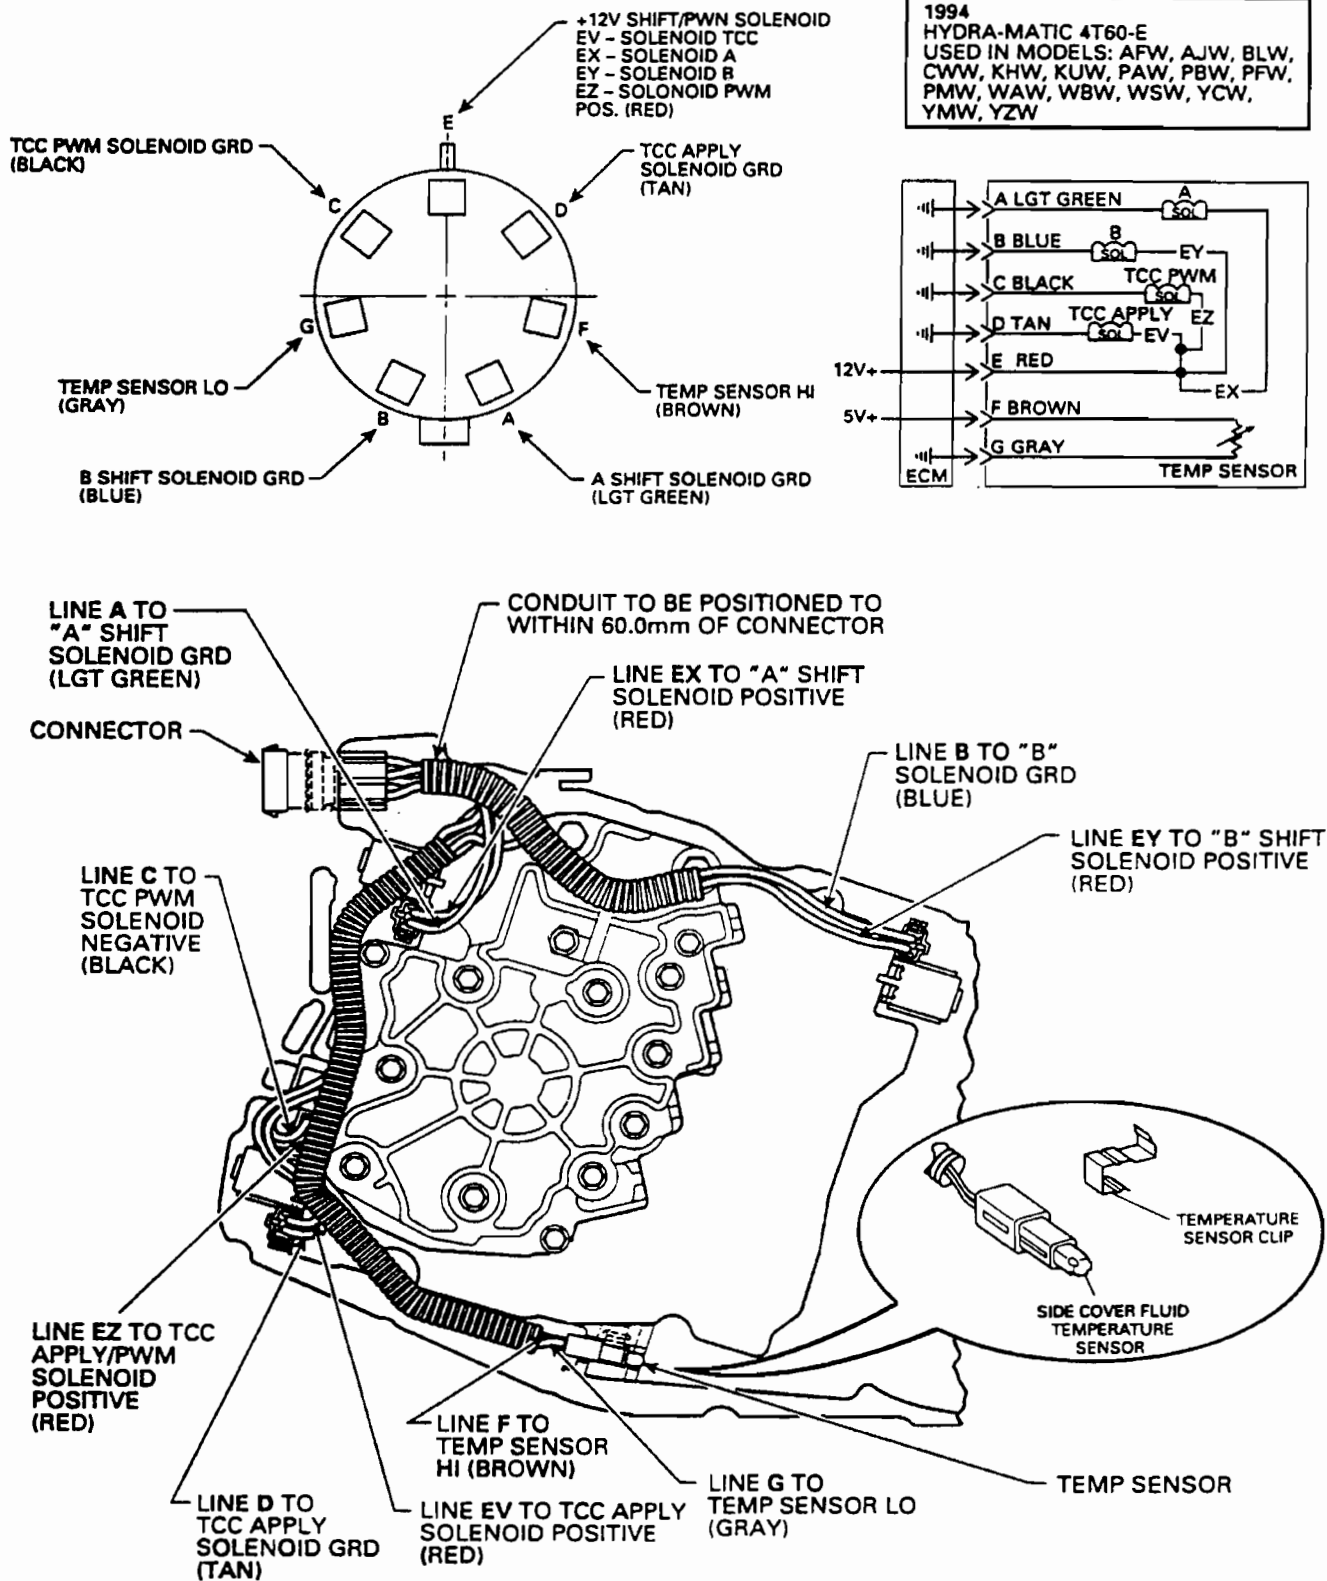
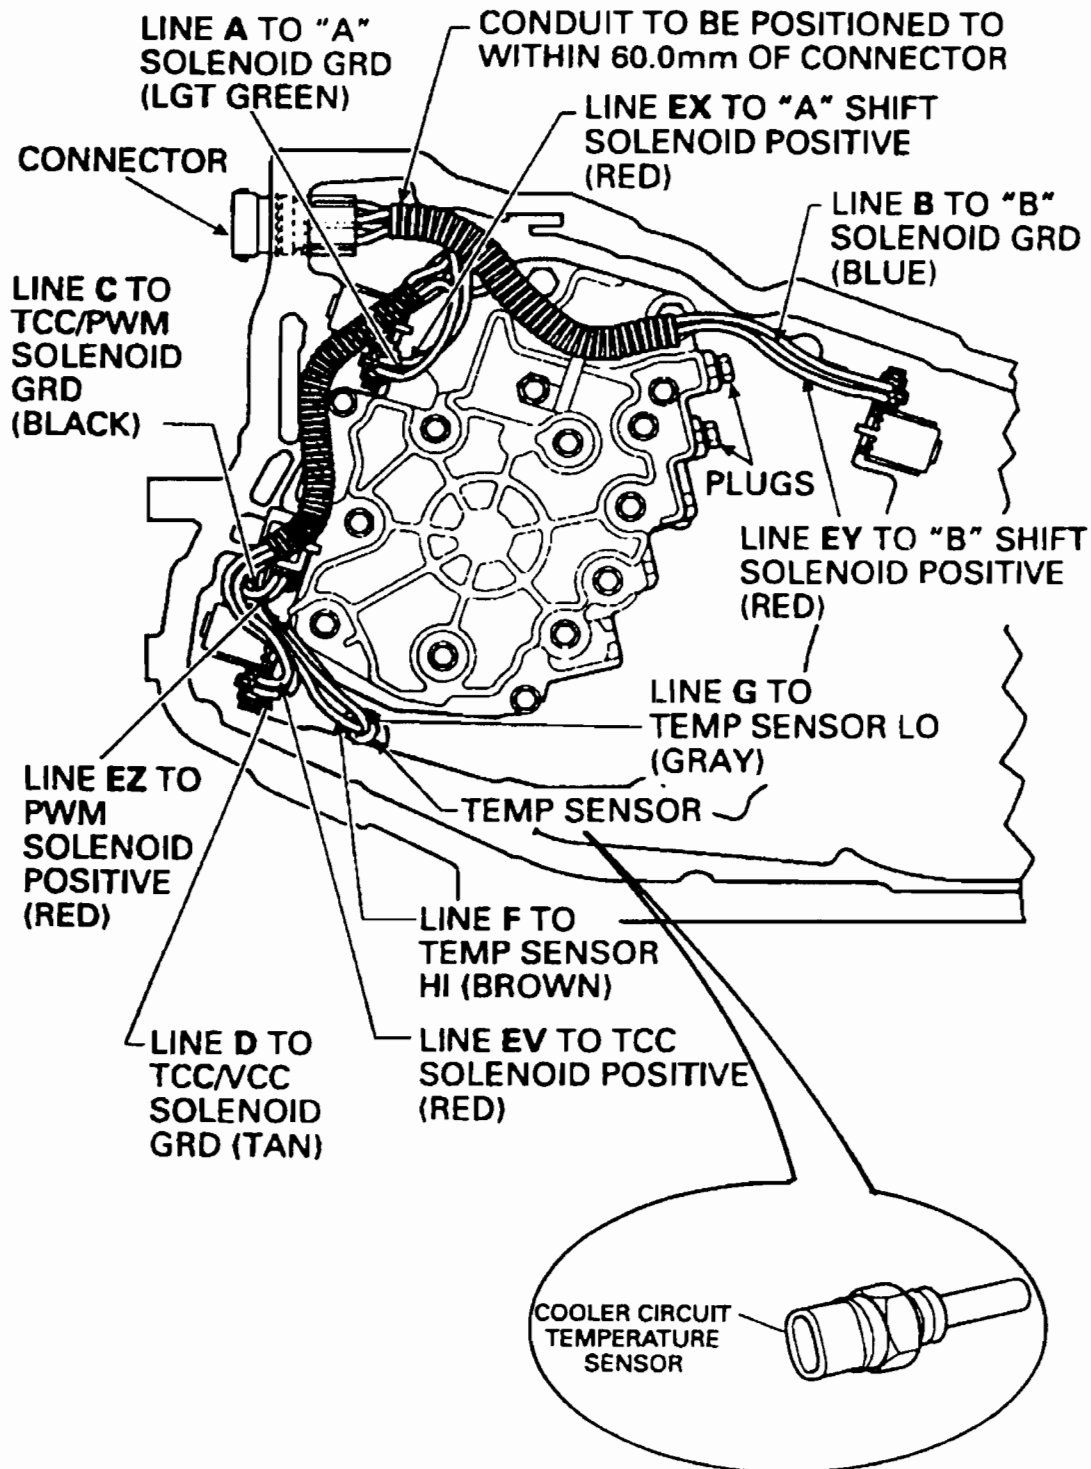

Figure 70
Figure 73
- (2) **INTERNAL TRANSAXLE WIRING HARNESS** - Cavity function changes to accommodate the re-designed wiring. Refer to Figures 70, 71, 72, and 73, which will depend on the model you are working on.
- (3) **TEMPERATURE SENSOR** - Added internally to the transaxle to give the PCM transaxle temperature information. There are 2 different types of the temperature sensor. One sensor is screwed into the channel plate near the TCC accumulator bore and monitors cooler fluid temperature. Refer to Figure 73 for this sensor. The other type sensor is incorporated into the wiring harness and clips to the valve body spacer plate, as shown in Figure 70. Regardless of which type temperature sensor you have, the wires will go through terminals "F" & "G" in the new case connector.